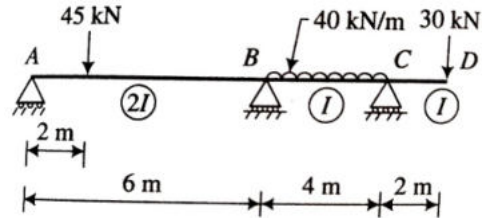

Figure 8.
10. Analyze the continuous beam shown in figure 8, by using [14M]